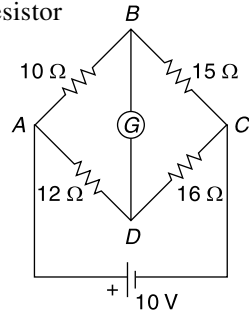

Fig. 4.202
41. The galvanometer in Fig. 4.202 has a resistance of 5Ω . Find the current through the galvanometer using Thevenin's theorem. [Ans: 15.9 mA]